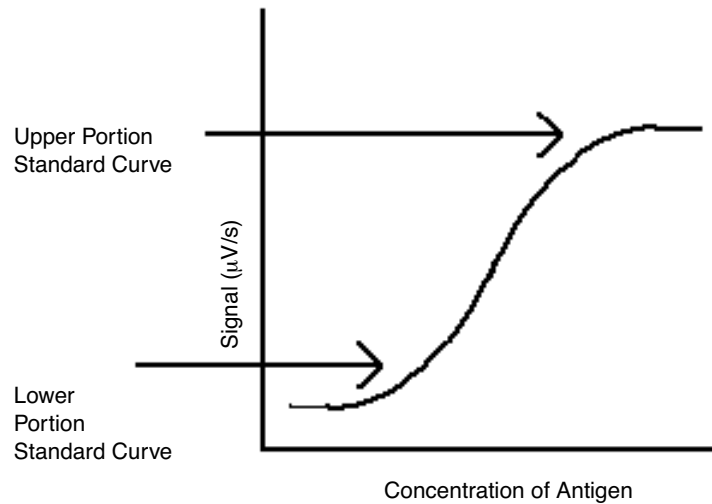

Figure 13-3: The Standard Curve
The objective of this experiment is to define the upper and lower limits of the standard curve for the assay (Figure 13-3). From Experiment 1, the concentration of antibodies to use was determined and an estimation of the lowest standard of the standard curve can be made.
- If the upper portion of the curve does not exhibit a plateau, (Figure 13-3), then repeat this experiment with a 3 log (1000-fold) dynamic range.